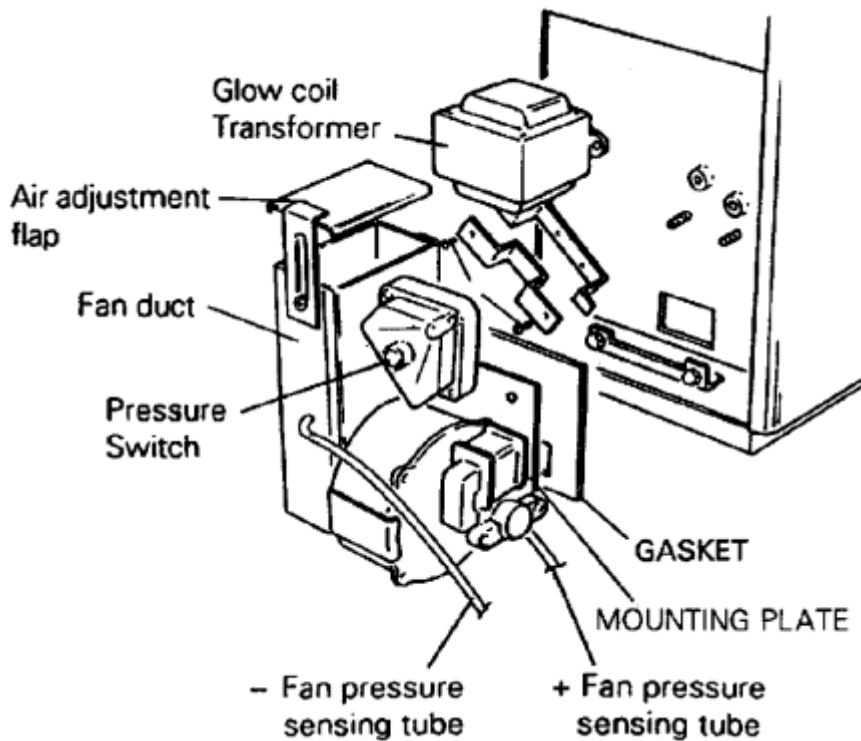

Fig.26
**To Remove Airfan - See Fig.26**
**To Remove Air Pressure Switch - See Fig.26.**
**To Remove Ignition Transformer - See Fig 26.**